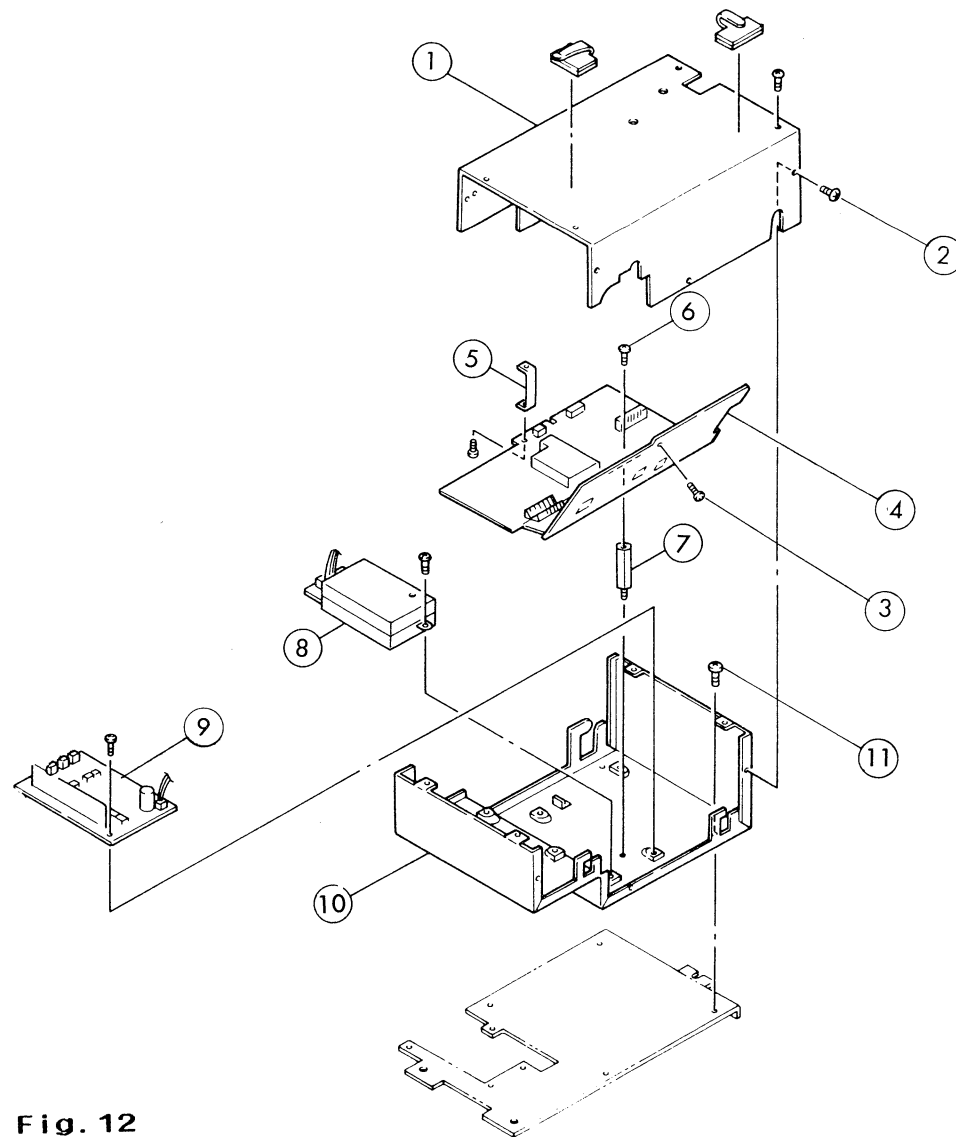

Fig. 12
IV — 7 Camera Box Section (See Fig. 12)
2. Unscrew ② to remove ①.
3. Unscrew ③ to open ④; also disconnect the connector.
4. Unscrew ⑥ to take out ④.
5. See Fig. 12 for further disassembly.